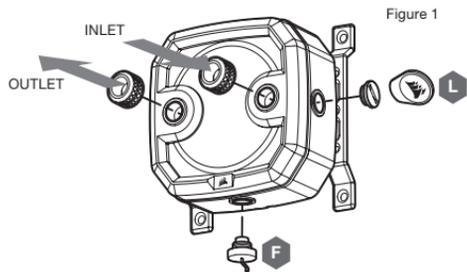

Figure 1
1. Install the two (2) appropriate CORSAIR XF G1/4 BSPP threaded-type fittings (not included) into the reservoir ports and tighten them by hand. Do not use any tools (i.e. pliers) (Figure 1).